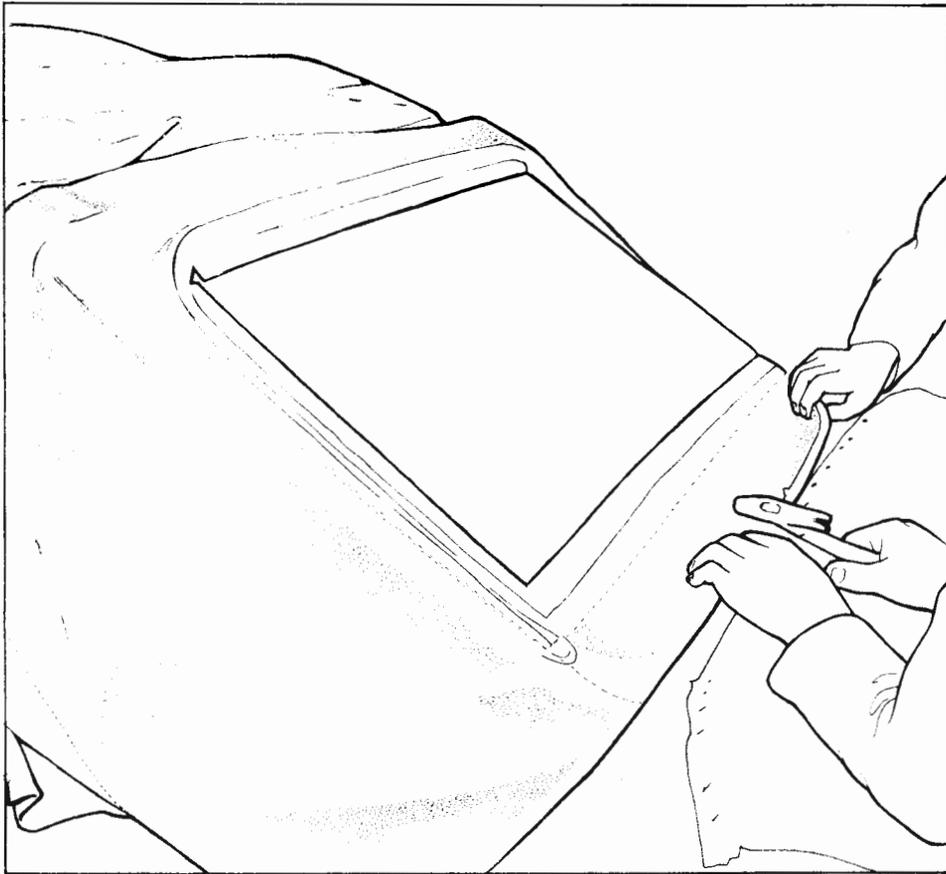

Fig. P9B
3. Pull the lower edge of the backlight fabric downwards until taught. Check that the headlining is hanging loose inside the car and not tacked with the lower backlight fabric. Tack the centre of the backlight fabric to the lower tacking strip. Stretch the assembly sideways and tack once below each corner of the 'Vybak'. See fig. P9B.